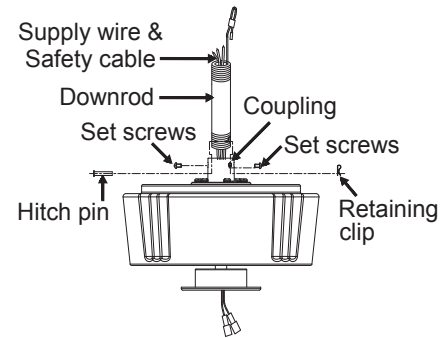

Fig. 9
Step 6. Loosen the two set screws and remove the hitch pin and retaining clip from the coupling on top of the motor assembly. (Fig. 9)
Next, replace the hitch pin and retaining clip. Tighten both set screws. (Fig. 9)